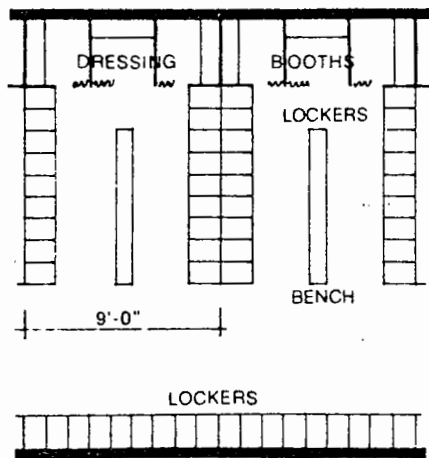

Fig. 7 Recommended U-shaped unit of lockers and dressing booths.
1. *Gang units vs. private facilities.* Gang units have proved satisfactory, but a few showers and dressing booths should be included in women's locker rooms. Recommended is a U-shaped unit, with two or three dressing booths set between rows of lockers. (See Fig. 7.) Gang units can save a great deal of space. In the case of locker room remodeling, often two locker and shower units can be installed in the space formerly occupied by a single unit with private facilities. Supervision and maintenance are made easier, and costs are reduced.